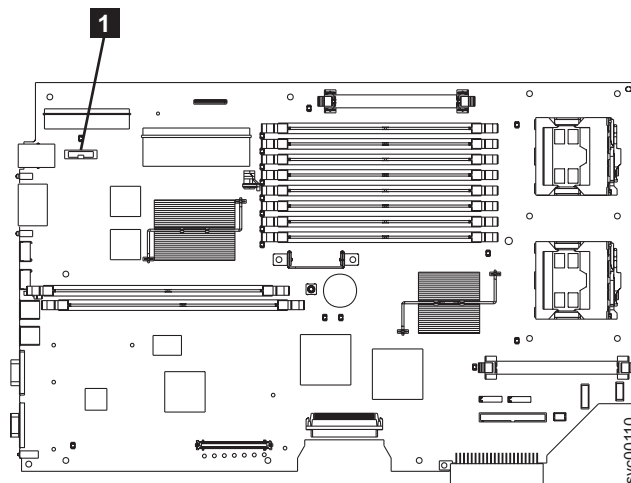

Figure 139. Location of the CMOS battery on the SAN Volume Controller 2145-8F2
1. Insert the new battery in the battery socket. Figure 139 shows the location (1) of the battery socket.